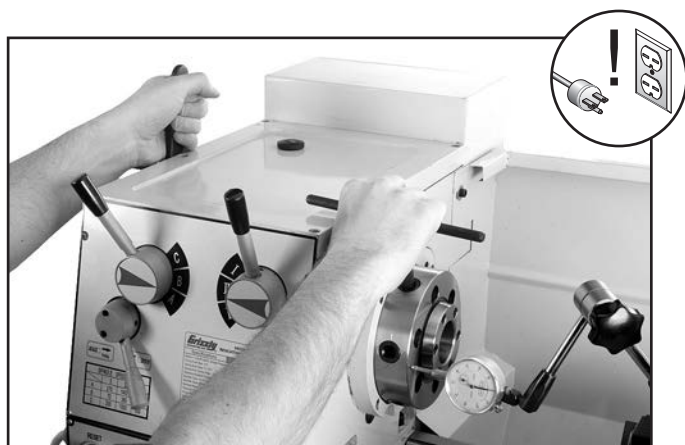

Figure 119. Adjusting spindle bearings.
11. Insert chuck key into a cam socket to prevent spindle from turning, then tighten inner spanner nut until dial indicator needle just stops moving (see **Figure 119**).